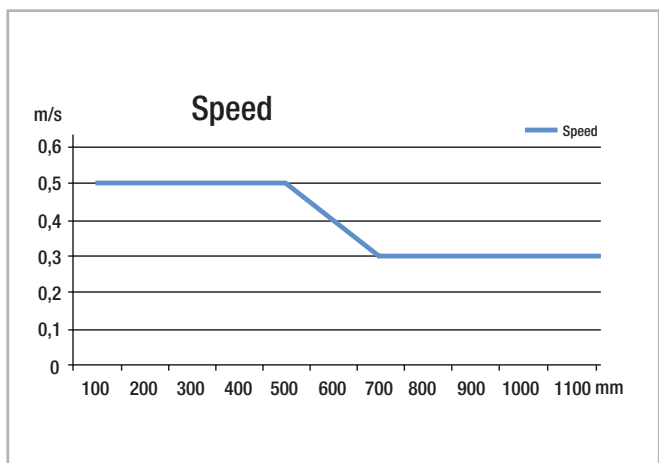

Fig. 22
The extension speed is determined by the size of the intermediate elements. Therefore, the maximum extension speed is inversely proportional to the overall extension of the rails (see fig. 22). The maximum extension speed is also directly related to the applied load and operating time. The indicated data refers to continuous operation at the maximum load capacity.
- Light Rail full and partial extensions are suitable for use in automatic systems. For this, the stroke should remain constant in all moving cycles and the extension speed must be checked (see pg. LR-22, fig.22). The movement of the extensions is enabled by internal ball cages, which could experience an offset from the original position with differing strokes. This phase offset can have a negative effect on the running properties or limit the stroke. If differing strokes occur in an application, the drive force must be sufficiently dimensioned in order to appropriately synchronize the ball cage offset. As an alternative, an extra full stroke cycle can be performed every certain number of cycles, in order to re-phase the ball cage in its correct position.